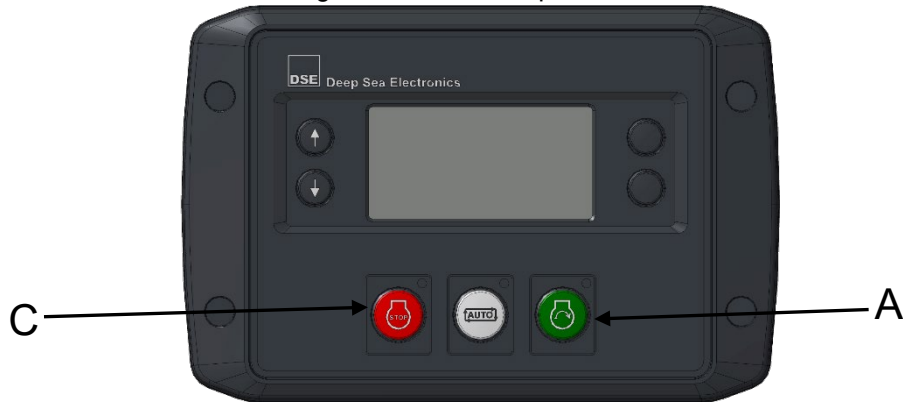

Figure 10.2-1 Electronic control board
3. Gradually open the exit air valve (Letter B in Figure 10.2-1);
9. Re-open slowly the exit air valve (Letter B Figure 10.2-1) and close it again repeating the process a few times to allow the settling of the valve;